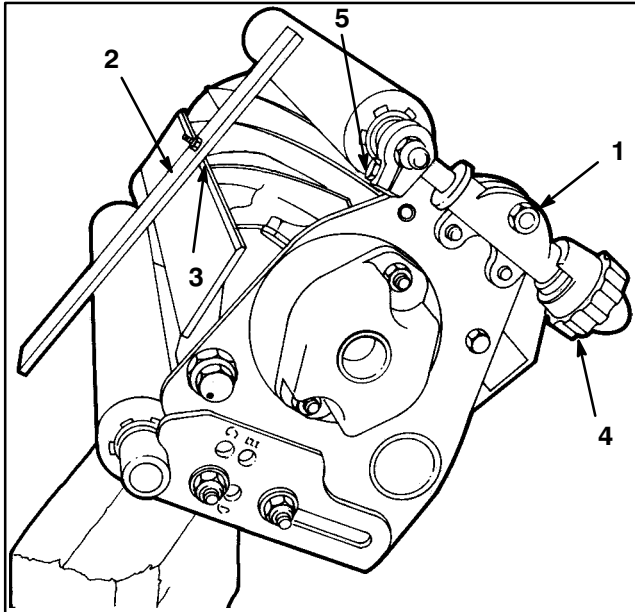

Figure 7
2. Turn cutting unit over and loosen locknuts securing front roller adjusting screws to Height of Cut brackets (Fig. 7).
4. Place the bar across the front and rear rollers and adjust the height of cut knob until the underside of screw head engages the bedknife cutting edge (Fig. 7).
1. Assure rear roller is in the desired height of cut position. Loosen the bolts anchoring the front roller shaft. Rotate the shaft (Fig. 7).